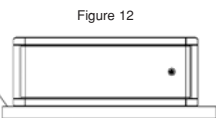

Figure 12
5. Turn the digital level 180° on the same plane, figure 12, wait 10 seconds, and press the Zero key again until the LCD displays -2-.